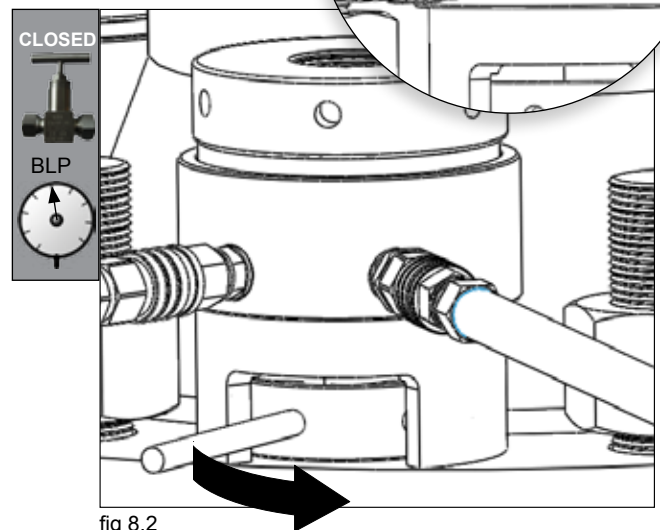

fig 8.2
4. Once the pressure is holding steady, continue to slowly increase the pressurise, continually monitor a single joint nut (tensioner end) for rotation. Use a tommy bar inserted into the nut socket fig 8.2. Once the break loose pressure (BLP) is found, stop the pump to hold the pressure and make a note of the pressure.
4. Once the pressure is holding steady, continue to slowly increase the pressurise, continually monitor a single joint nut (tensioner end) for rotation fig 8.2. Once the break loose pressure (BLP) is found, stop the pump to hold the pressure and make a note of the pressure.
11. Once the pressure is holding steady, continue to slowly increase the pressurise, continually monitor a single joint nut (tensioner end) for rotation fig 8.2. Use a tommy bar inserted into the nut socket. Once the break loose pressure (BLP) is found, stop the pump to hold the pressure and make a note of the pressure.